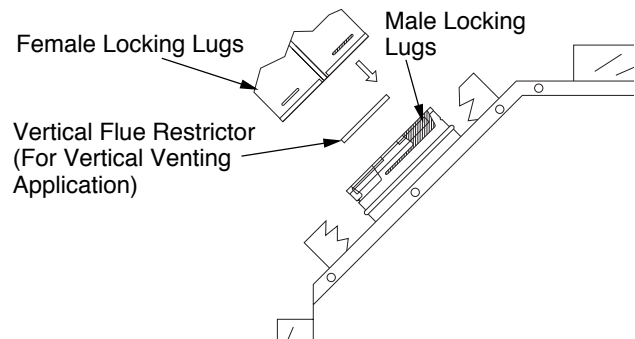

Figure 6 - Venting Installation
1. Install elbow to fireplace collar adapter located on back of the unit at a 45° angle. Slide elbow over collar and twist to lock. Check to insure proper connection (see Figure 6).
6. For vertical installation, a vertical termination is available. Also for vertical venting application, install vertical flue restrictor into inner collar of fireplace as shown in Figure 6.